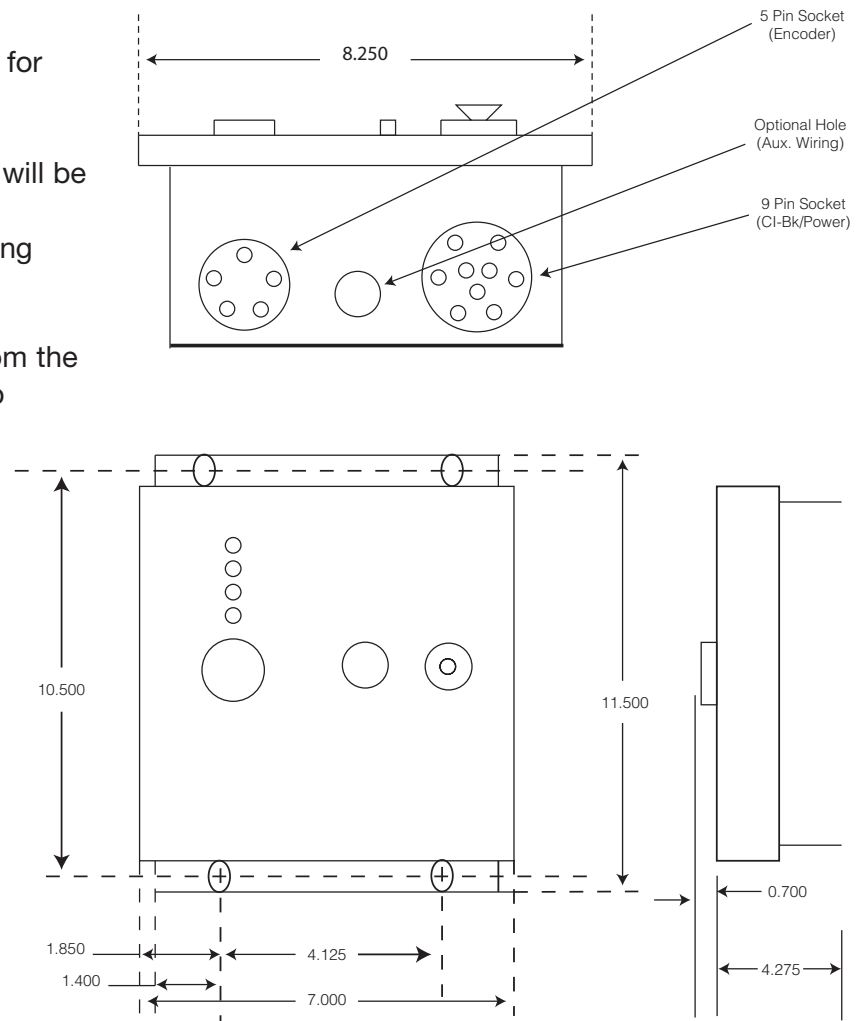

Figure 1
Refer to the dimensional diagram, Figure 1 for actual mounting dimensions.
- ❑ 1. Remove the insert cover between the two cable connectors on the CBPC-3590 controller. Refer to Figure 1, page 5.